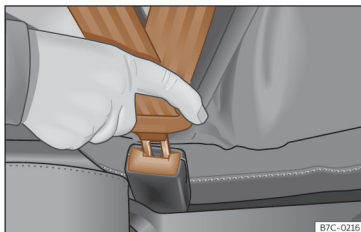

Fig. 19 Insert the latch plate of the seat belt into the buckle.
Properly worn seat belts hold the vehicle occupants in the position that most protects them in the event of an accident or sudden braking >>> **Fig. 19**.
- Engage the seat backrest of the rear seat in an upright position >>> **Fig. 19**.
- Pull the latch plate and place the belt webbing evenly across your chest and lap. Do not twist the seat belt when doing so >>> **Fig. 19**.
- Insert the buckle plate in the buckle of the correct seat >>> **Fig. 19**.